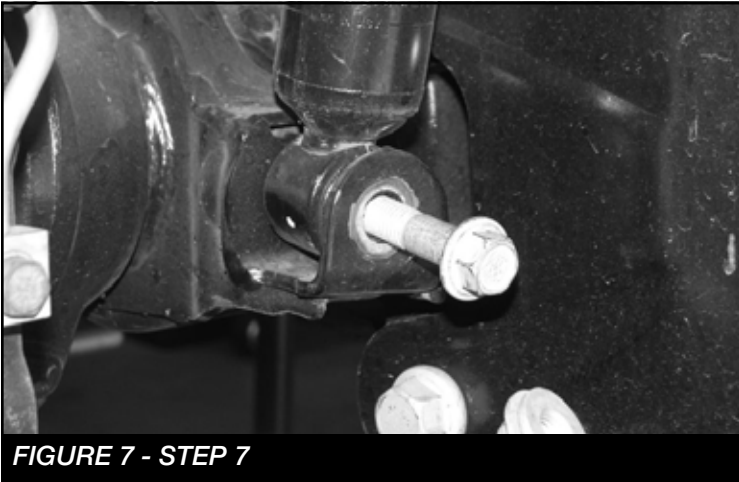

FIGURE 7 - STEP 7
7. Remove the lower shock bolts from both driver and passenger side, save for re-installation. **SEE FIGURE 7.**